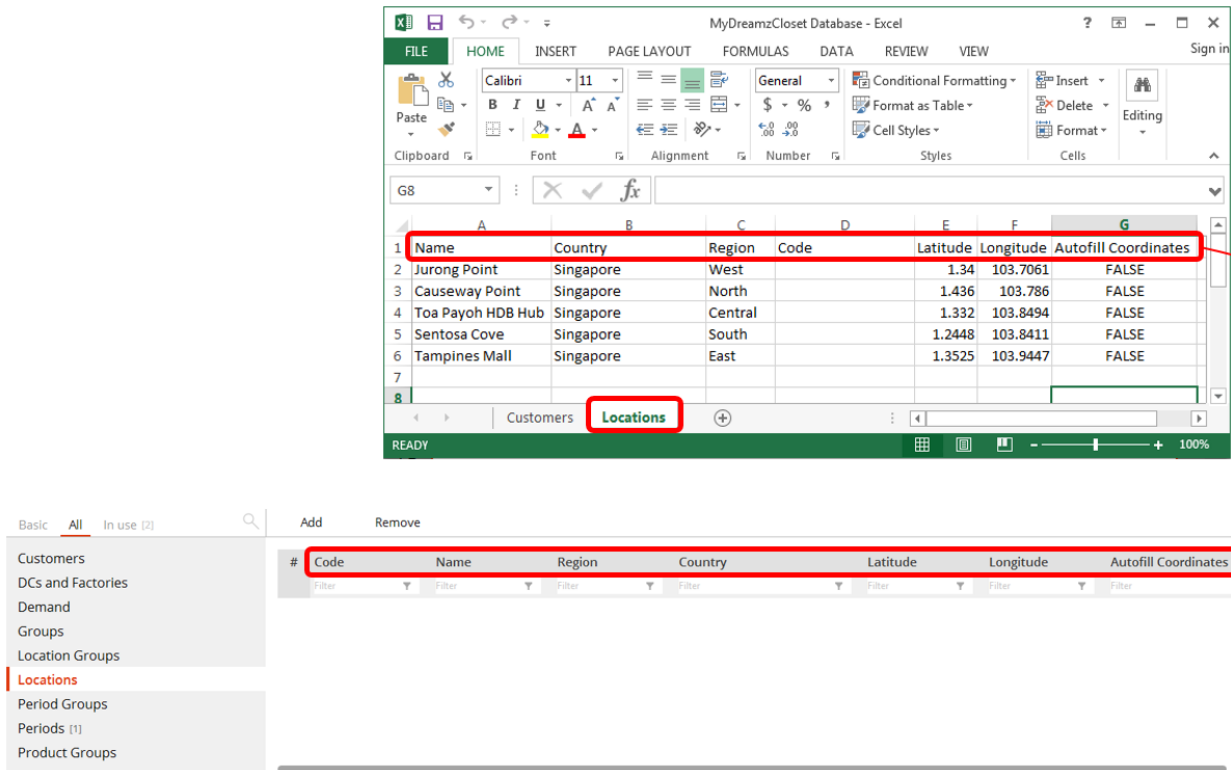

Figure 13: MyDreamzCloset Customer Database Spreadsheet (Locations Tab)
- ✓ Note that in Figure 13, for the Locations Tab, the Excel Column Headings do not correspond sequentially to ALX Column Headings (due to the recent version upgrade). By right, they should.